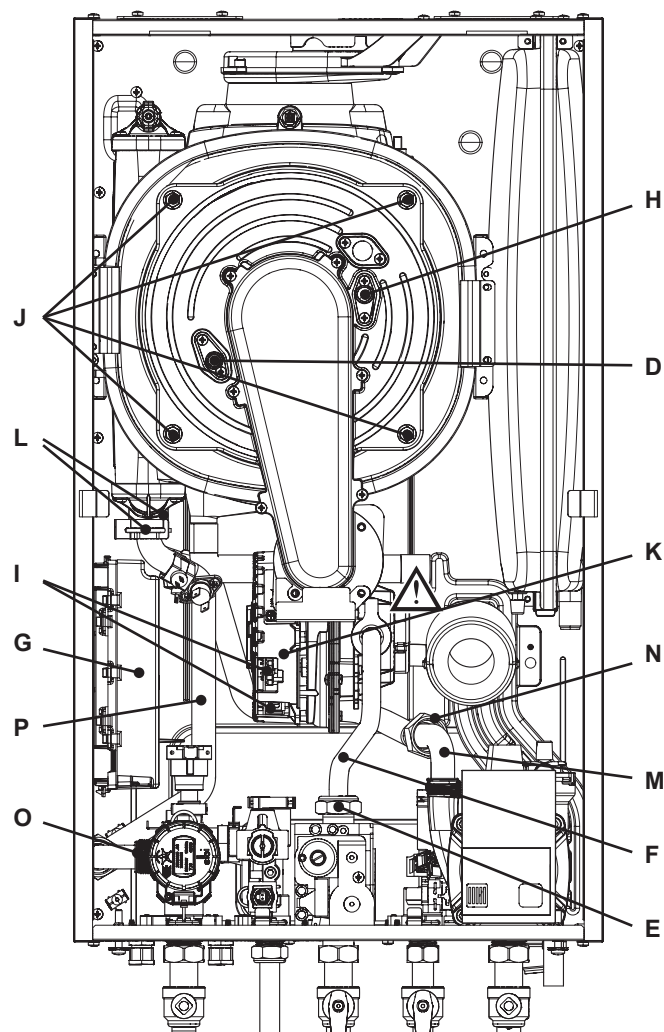

Figure 5.2
- 4 Disconnect the fan connector "I" by pressing the plastic hook placed on the side of the connector (Figure 5.2).
- 5 Unscrew the connector "E" and remove the pipe "F" (Figure 5.2).
- 6 Unscrew the nuts "J" (Figure 5.2).
- 9 Remove the clips "L" (Figure 5.2).
- 10 Loosen the connection "N" and slightly move the pipe "M" upwards, turn it towards left (Figure 5.2) and then move the pipe downwards freeing it from the Condensing heat exchanger.
- 11 Loosen the connection "O" and slightly move the pipe "P" upwards, turn it towards left (Figure 5.2) and then move the pipe downwards freeing it from the Condensing heat exchanger.
Ensure to tighten the nuts "J" - Figure 5.2 firmly.